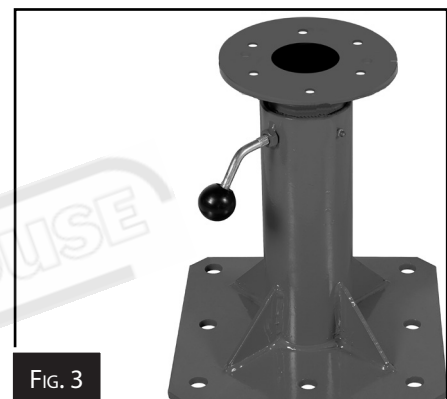

FIG. 3
1. Thread the Swivel Lock Handle into the base, then mount the base to the floor. (Fig.3) The mounting bolts should be Hi-tensile bolts nuts and spring washers.